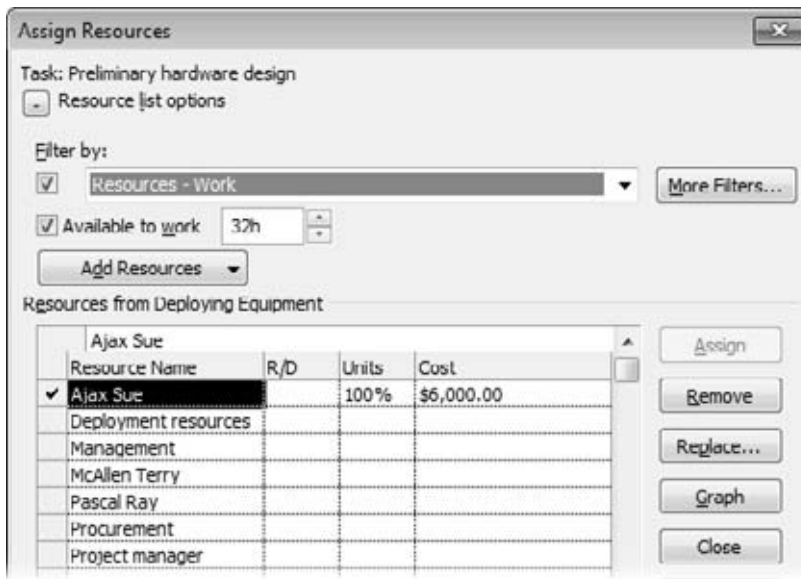

Figure 9-6:
3. **In the "Available to work" box, type the time the assignment requires, such as *4d* or *32h*, as illustrated in Figure 9-6, and then press Enter.**